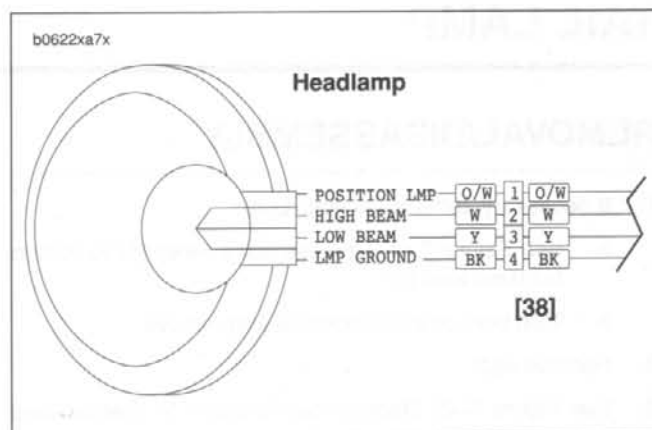

Figure 7-42. Headlamp Connector [38]
3. See Figure 7-42. Cut as many cable straps as necessary to access headlamp connector [38] along right side frame tube. Detach connector [38] from wiring harness.
2. See Figure 7-42. Route headlamp wire harness between front forks and along right side frame tube. Attach connector [38] to wiring harness. Fasten wiring harness to frame with **new** cable straps.